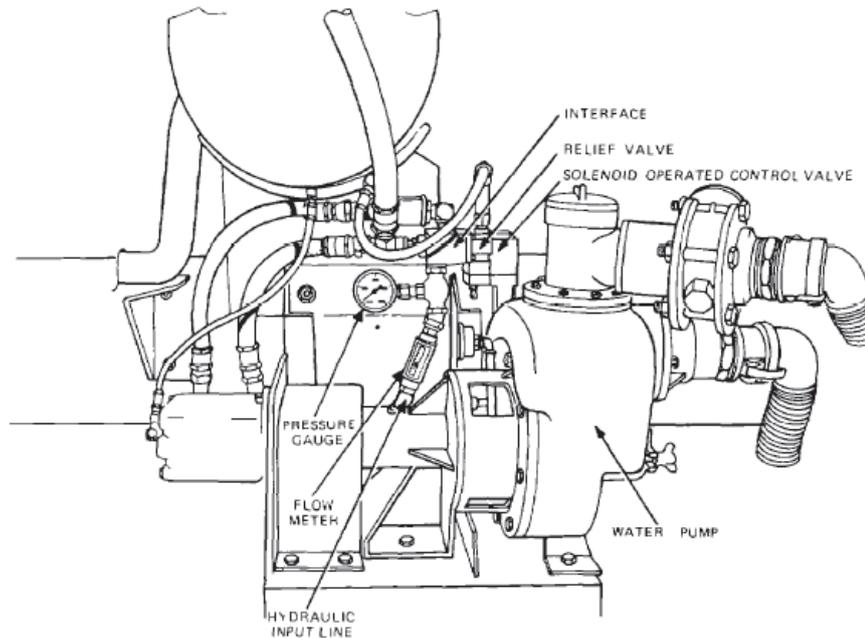

Figure 43 Location of Hydraulic Input Line
- a. Remove the hydraulic input line from the interface (Figure 43) and install a 15 000 kPa (2175 psi) pressure gauge and a 150 L/min. (33 gal/min.) flow meter in series with the hydraulic line and the interface.